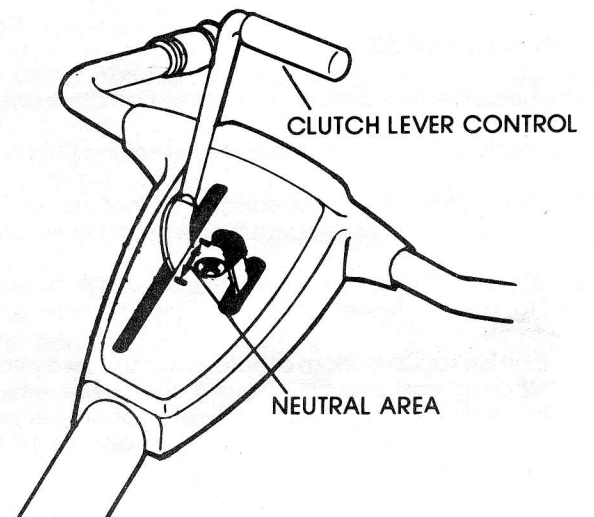

FIG. 9
3. Move the clutch control lever on the handle bar until centered in the neutral area (Figure 9).